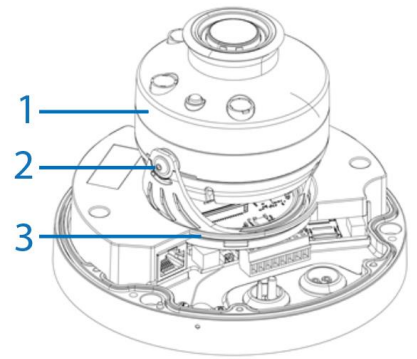

Figure 8
- To rotate the camera lens:** rotate the 3-axis gimbal (1) (Figure 8) between 0° and 355°.
- To tilt the camera lens:** tilt the 3-axis gimbal (2) (Figure 8) between 0° and 75°.
- To pan the camera lens:** rotate the 3-axis gimbal (1) (Figure 8) between 0° and 355°.